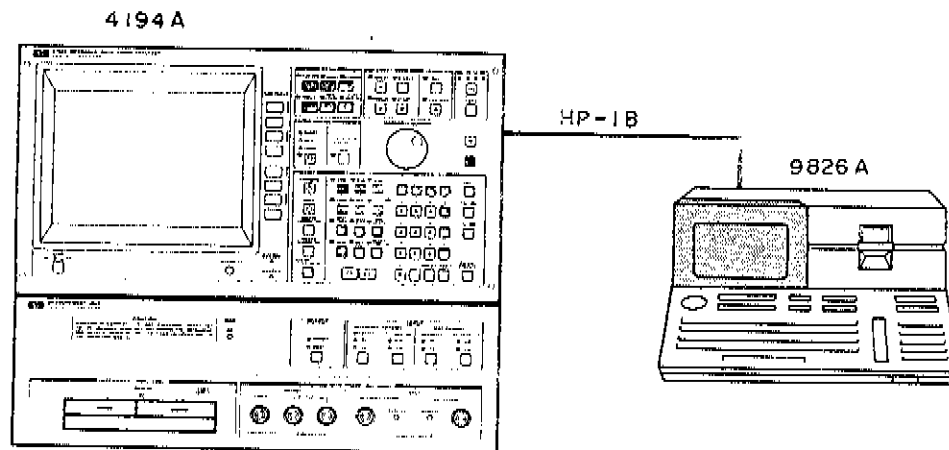

Figure 4-37. HP-IB Performance Test Setup.
1. Set up the equipment as shown in Figure 4-37. Use the 9826's interface Select Code (7). *Set the 4194A's address to 171*